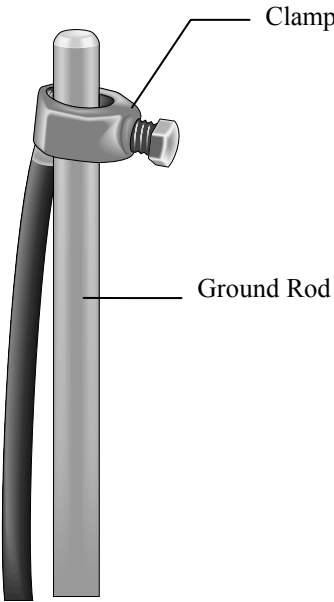

FIGURE 2.1-10. Ground rod and clamp
2. Loosen the bolt that attaches the clamp to the ground rod. Insert one end of the 4 AWG wire between the rod and the clamp and tighten the bolt (Figure 2.1-10).